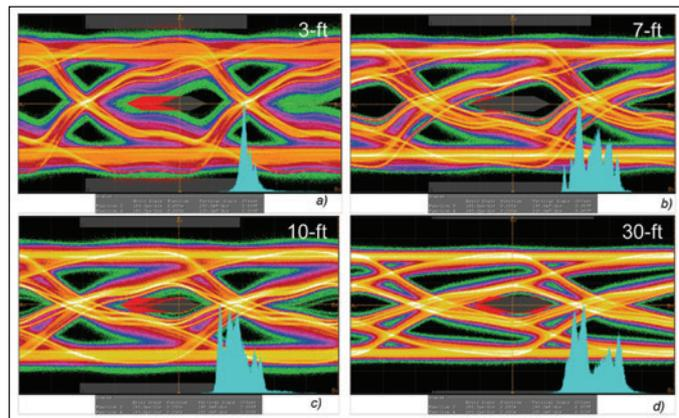
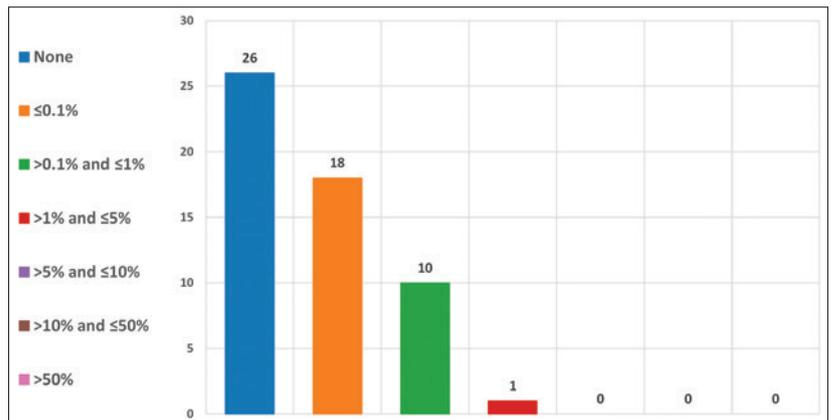

Figure 4: Impact of cable length driven by HDMI Source 2
Figure 5: Pareto of [Q21], “What percentage of your company’s product re-spins were due to latch-up failures in a system application?”
Figure 4 shows the eye diagram for HDMI Source 2 and four different cable lengths.
- Figure 4 shows the majority of latch-up fails are reported during the JESD78 qualification test, and many of these fails result in a re-spin, but this accounts for a very small fraction of the total number of re-spins as shown in Figure 5.
Figure 4: Feedback to [Q12], “Where have you experienced latch-up failures?” in the Case where [Q11], “Have you experienced latch-up failures?” Was Answered “Yes”
Figure 4 shows at what step latch-up was detected, Figure 6 shows the root causes, and Figure 5 shows how often such cases led to re-spins.